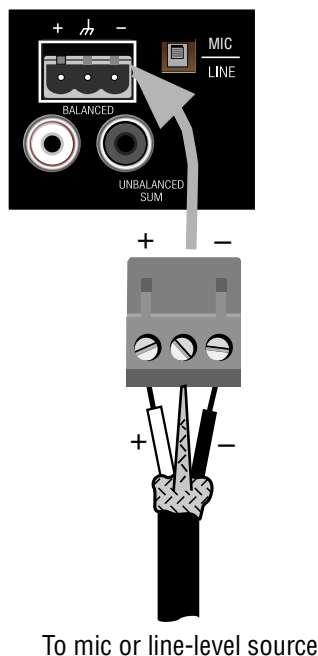

Figure 2.3 Mic/Line Connectors and Amp Input Connectors
- **Mic/Line Connectors and Amp Input Connectors:** 3-pin Phoenix-type, balanced, one per input channel (Figure 2.3).